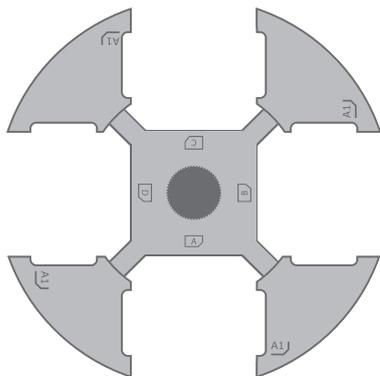

Figure 64. Ensure that the collection plates/racks are loaded correctly into the carousel. Note the location of the A1 position of the plate/rack.
21. Load 24-, 48-, or 96-well collection plate(s) or rack(s) onto the carousel as specified in the method; see the **Carousel Setup** in the **Prepare Run** view. Ensure to load them in the correct direction; see the location of the A1 position of the plate/rack in Figure 64.